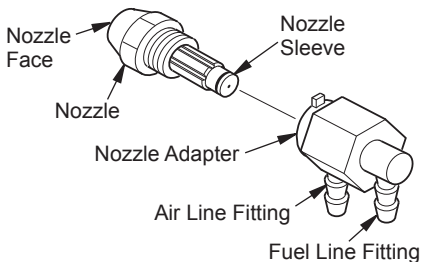

Figure 23 - Nozzle and Nozzle Adapter, All Models
- Carefully remove nozzle from the nozzle adapter using 5/8" socket wrench. See Figure 23.
- Replace nozzle into nozzle adapter until nozzle seats. Tighten 1/3 turn more using 5/8" socket wrench (40-45 inch-pounds). See Figure 23.